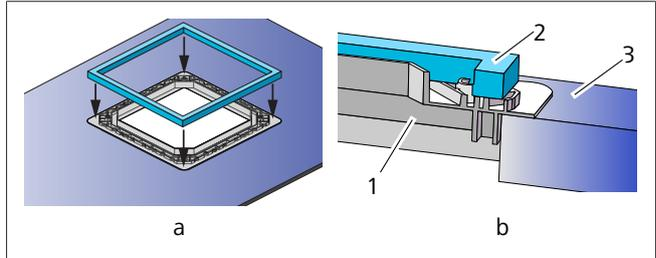

Fig. 13 Mounting the gasket on an adaptor frame (400 x 400 cut-out)
- 1. Peel off the backing paper and stick the gasket to the adaptor frame (400 x 400 cut-out). See Fig. 13-a and b.